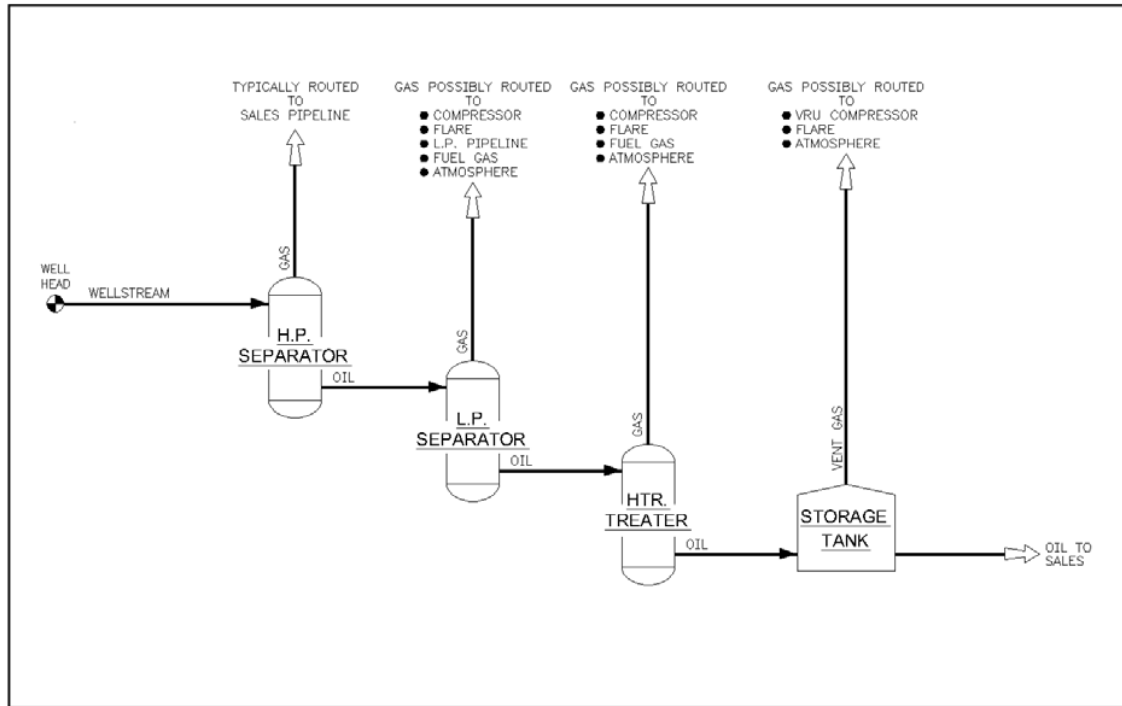

Figure 3. Possible flash losses and routes for the flash gas
- **Fixed Roof Storage Tanks:** High/low-pressure crude oil and condensate are flashed into tanks operating at atmospheric pressure (**Figure 3**).